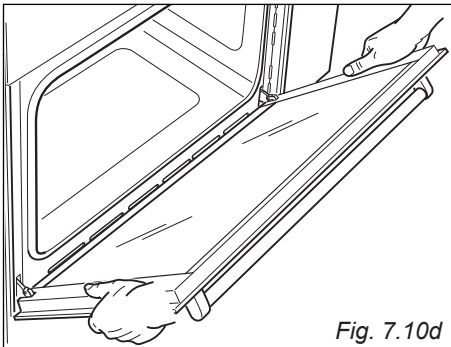

Fig. 7.10d
- Hold the door as shown in fig. 7.10d.